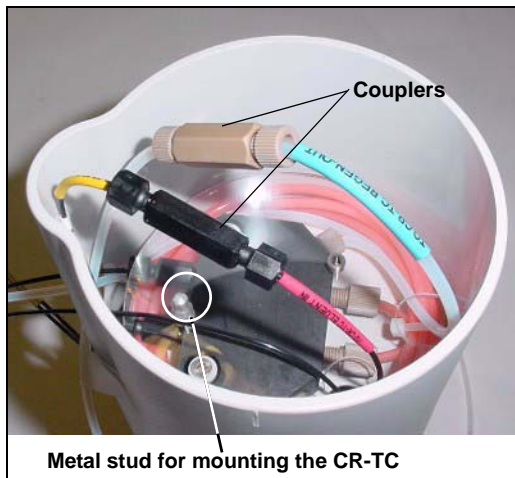

Figure 5-77. EGC Holder (upside down)
4. Turn the new holder upside down (see Figure 5-77) and connect the liquid lines to the CR-TC.